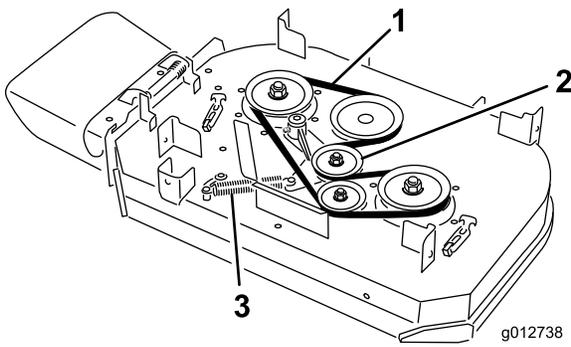

Figure 63
4. Remove the spring from the anchor post on the idler pulley arm (Figure 63).
5. Remove the worn mower belt (Figure 63).
6. Install the new mower belt around the clutch pulley, deck pulleys and idler pulley (Figure 63).
7. Install the spring onto the anchor post on the idler pulley arm (Figure 63).
6. Install the new mower belt around the deck pulleys and idler pulley (Figure 63).
5. Remove the spring from the anchor post on the idler pulley arm (Figure 63).
6. Remove the worn mower belt (Figure 63).
7. Install the new mower belt around the deck pulleys, clutch pulley and idler pulley (Figure 63).
8. Install the spring onto the anchor post (Figure 63).